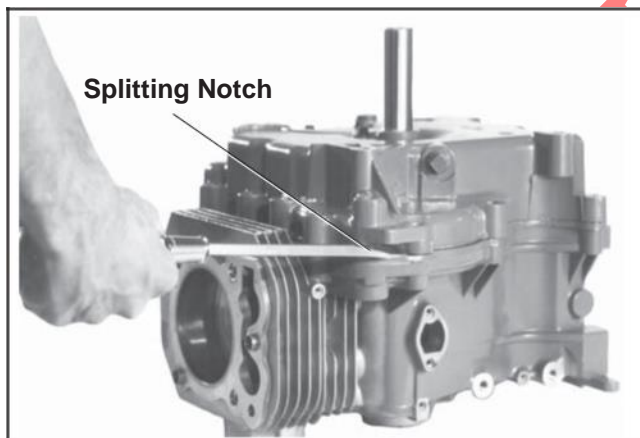

Figure 9-37. Splitting the Oil Pan Crankcase.
3. Locate the splitting tabs on the oil pan and crankcase. Insert the drive end of a 3/8" breaker bar between the splitting tabs and rotate the handle to break the RTV seal between the crankcases and oil pan. See Figure 9-37.